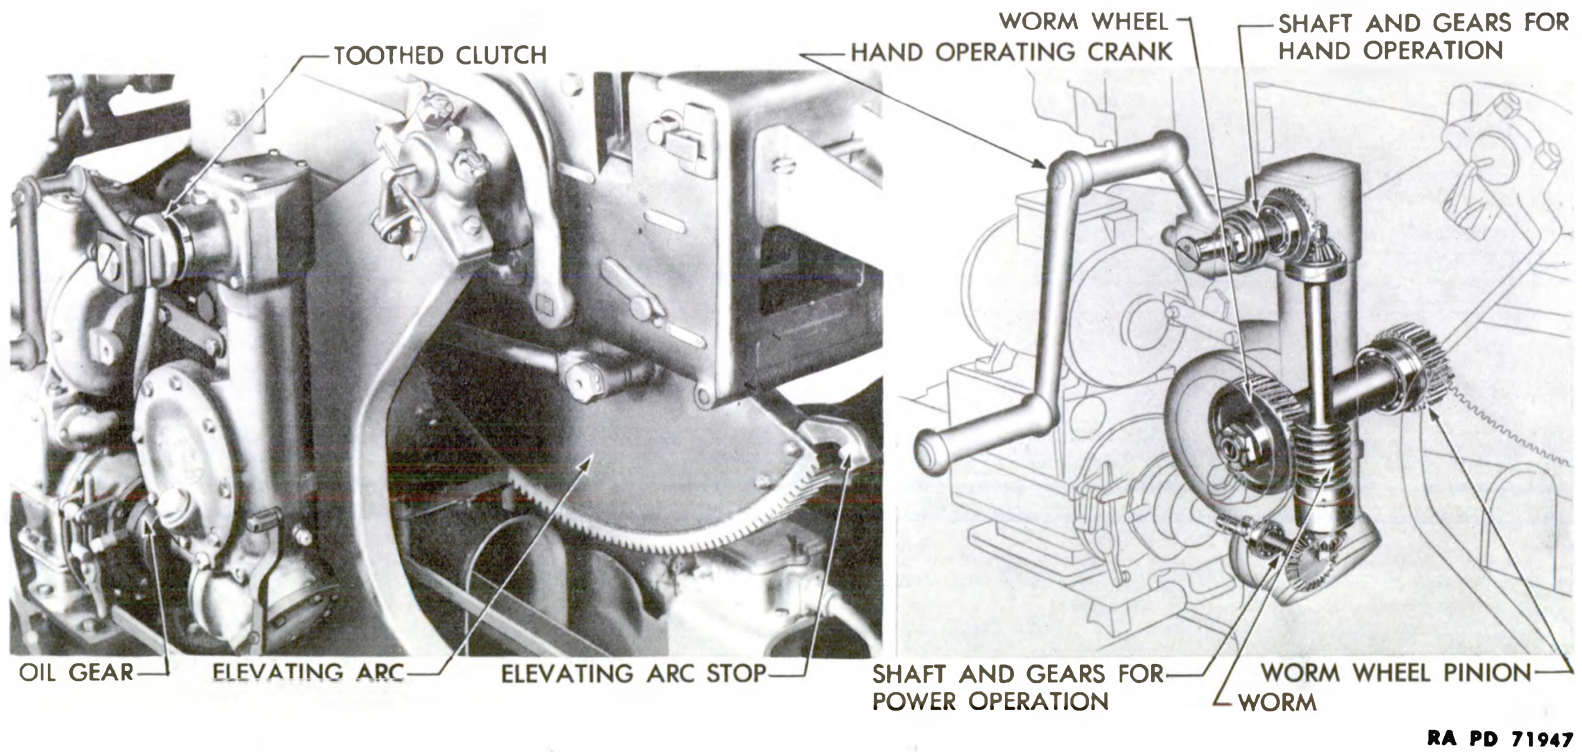

Figure 48 - Elevating Mechanism - Assembled and Phantom Views
a. The elevating mechanism (fig. 48) consists of the hand elevating mechanism group assembly and the elevating worm and worm